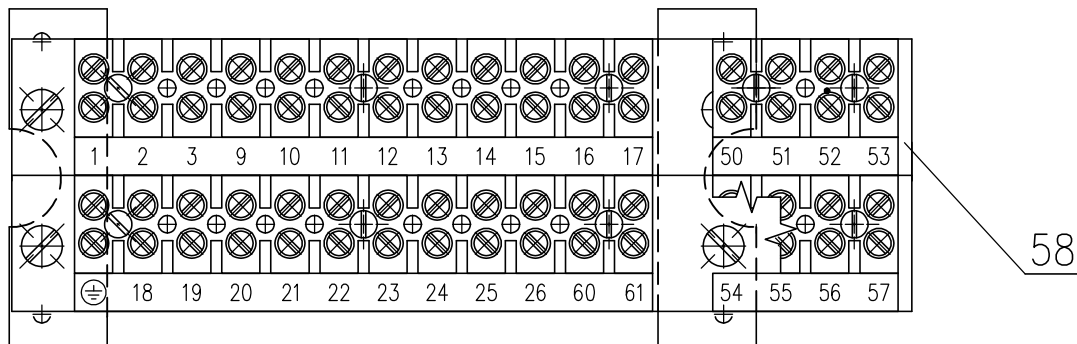

Fig.7
Torque switch unit (Fig. 7) consists of the following parts:
Can be made through the terminal board (58) (Fig.7).